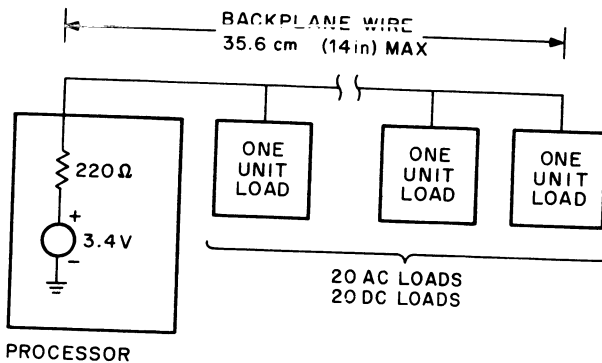

Figure 9-15 Single Backplane Configuration
- As illustrated in Figure 9-15, the bus can accommodate modules that have up to 20 ac loads (total) before an additional termination is required. The processor has on-board termination for one end of the bus. If more than 20 ac loads are included, the other end of the bus must be terminated with 120 ohms.